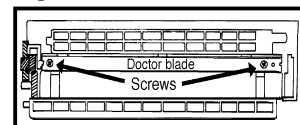

Figure 4
- Remove the doctor blade (2 screws- Fig. 4) Clean the blade with a lint free, non-treated cloth saturated with 99% IPA.